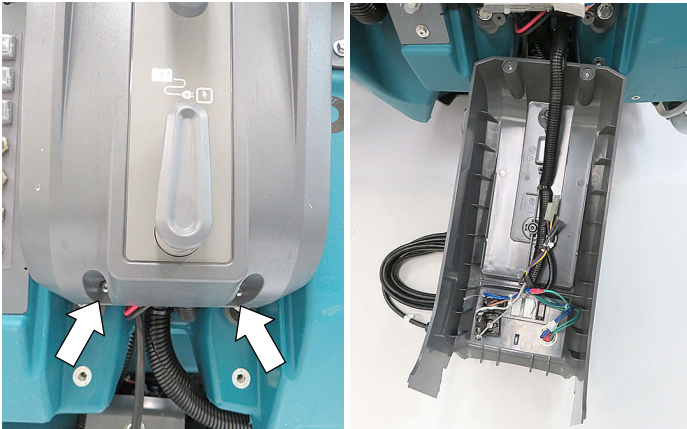

Fig. 29
1. Remove the two lower torque screws at bottom of control console and carefully lower console cover as shown (Figure 29). T25 torque screwdriver required.